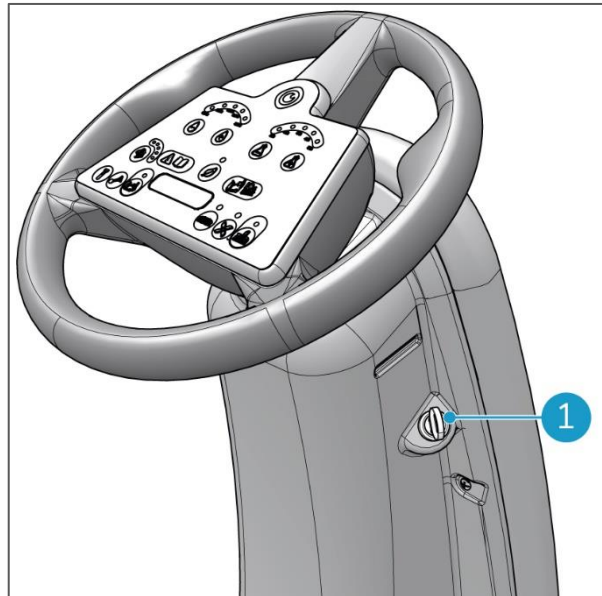

Figure 30
1. Place the ignition key in the keyhole (Figure 30, pos 1).